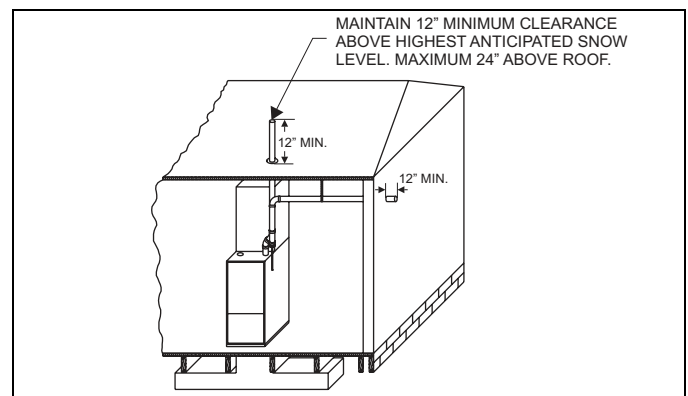

FIGURE 19: Termination Configuration - 1 Pipe
2. **AMBIENT COMBUSTION AIR:** Combustion air is supplied from the area surrounding the furnace through the combustion air pipe in the furnace casing. The combustion air and the vent pipes are not terminated in the same atmospheric zone. Refer to Figures 19 & 26 for vent terminations. Refer to "AMBIENT COMBUSTION AIR SUPPLY" and "VENT AND SUPPLY OUTSIDE AIR SAFETY CHECK PROCEDURE" for proper installation.
This type installation will draw the air required for combustion from within the space surrounding the appliance and from areas or rooms adjacent to the space surrounding the appliance. This may be from within the space in a non-confined location or it may be brought into the furnace area from outdoors through permanent openings or ducts. It is not piped directly into the burner box. A single, properly sized pipe from the furnace vent connector to the outdoors must be provided. For down-flow models combustion air is brought into the furnace through the unit top panel opening. Do not install a pipe into the combustion air pipe at the top of the furnace. Refer to Figures 19 & 26.